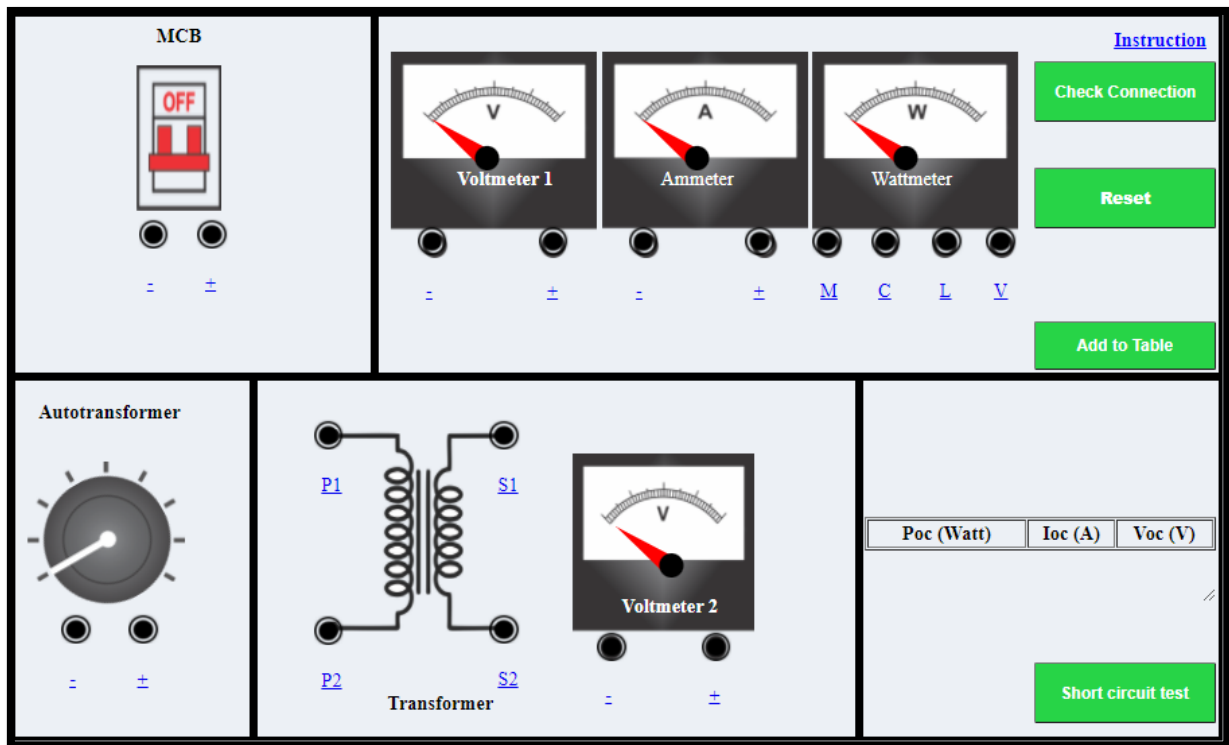

Figure 3: Draw the wiring diagram of an open circuit transformer test for this figure.
Step 5.1: Make all the correct connections. Refer to the steps below and **draw the wiring diagram of an open circuit transformer test in Figure 3.**